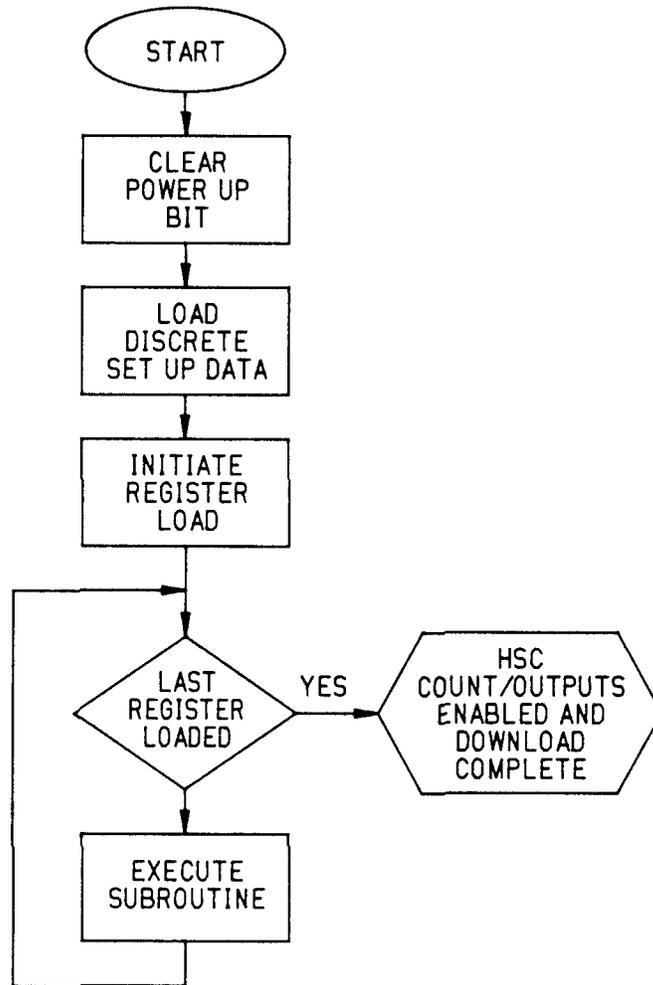

Figure 14. MAIN BODY OF PROGRAM
- a. After the Home Command (CB=4) is issued, and the first Marker Pulse is received after the Home Limit Switch is reached. Refer to Figure 14.
The Demonstration Program is divided into two sections: the Main Body and a Subroutine. The Main Body contains the logic that performs the power up sequence required to enable the counter. The Subroutine does the actual loading of the Command Data to the HSC module. Figures 14 and 15 illustrate the operation of the Main Body and the Subroutine, respectively, in block diagram form. The function of each logic block with the corresponding rung numbers is described below.
(Refer to Figure 14)